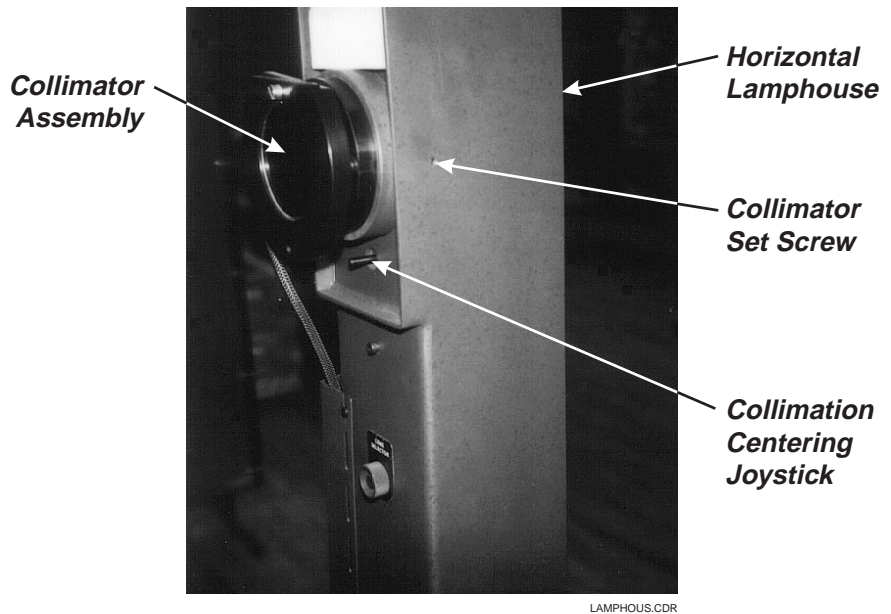

Figure F-1. Horizontal Illumination Collimation Adjustment Controls, On Side and Rear of Lamphouse
4. Locate the small set screw which is on the top left side of the horizontal lamphouse (see Figure F-1). This is the collimator set screw, which secures the collimator assembly within the lamphouse. Loosen the collimator set screw slightly.
7. Locate the collimation centering joystick that is on the back and toward the top of the horizontal lamphouse, just below the collimator assembly (see Figure F-1).
3. Locate the small set screw which is on the top left side of the horizontal lamphouse (see Figure F-1). This is the collimator set screw, which secures the collimator assembly within the lamphouse. Loosen the collimator set screw slightly.
5. Locate the collimation centering joystick that is on the back and toward the top of the horizontal lamphouse, just below the collimator assembly (see Figure F-1).